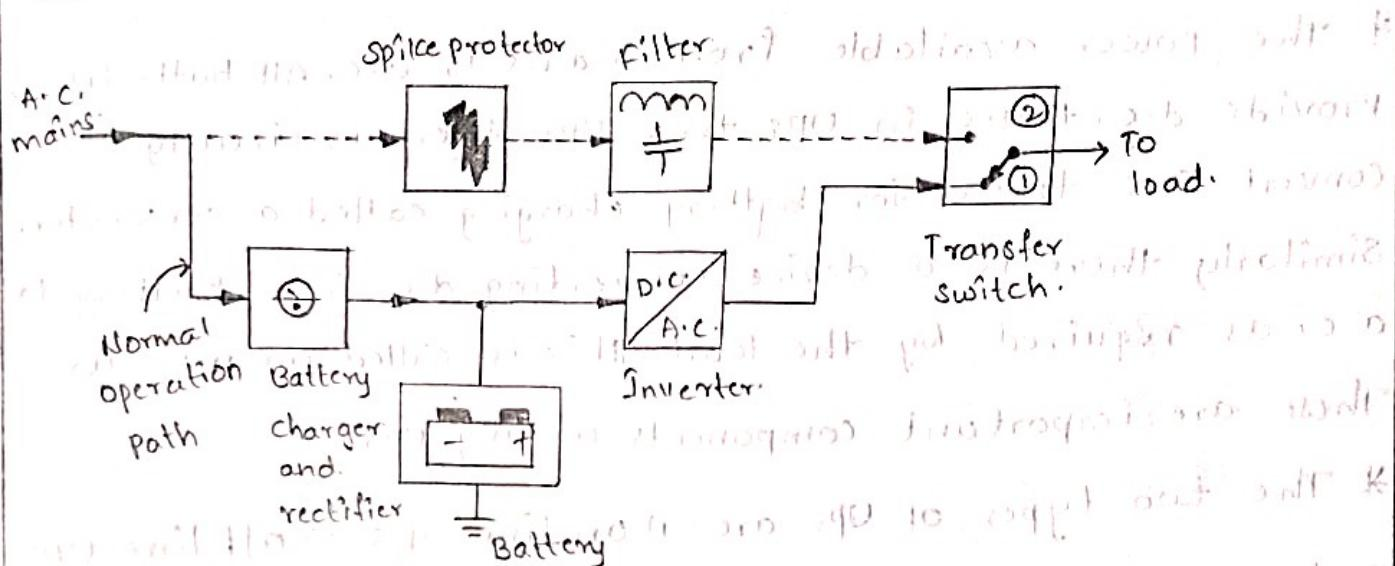

Fig. Q.27.1 Block Schematic of ON line UPS.
* The fig. Q. 27.1 shows the block schematic of ON line UPS.